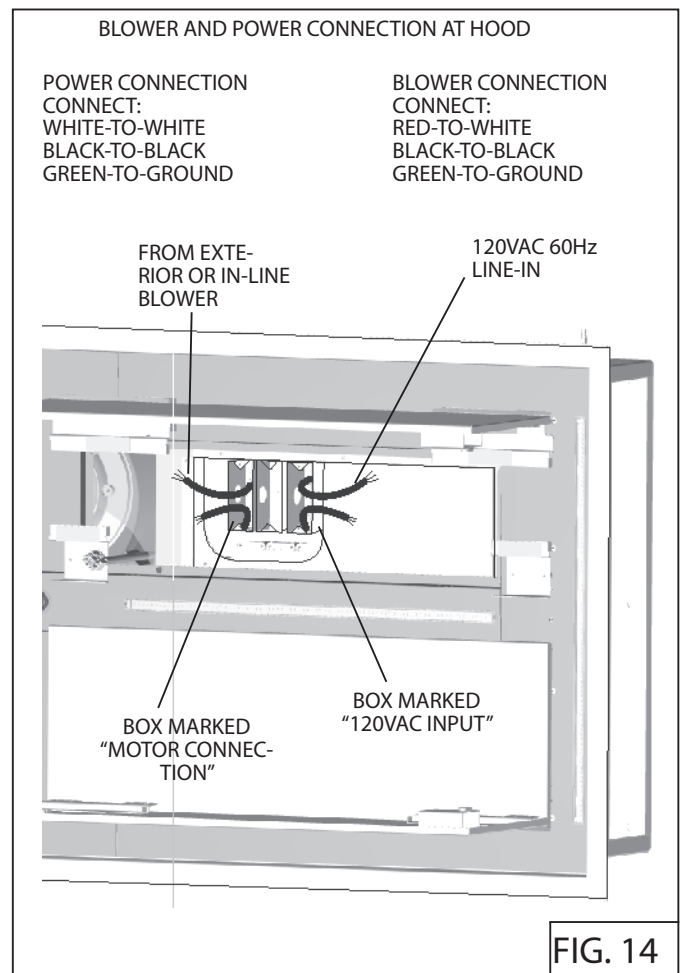

FIG. 14
3. From the electrical box marked "MOTOR CONNECTION", remove (2) screws that secure the cover to the metal wiring box. Fig. 14.
3. From the electrical box marked "120VAC INPUT", remove (2) screws that secure the cover to the metal wiring box. Fig. 14.